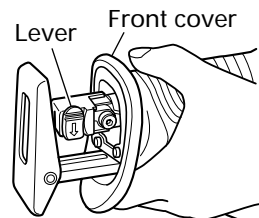

Fig. 5
- (1) Turn on and off the switching trigger several times so that the lever can jump out of the front cover completely. Thereafter, turn off the switch and remove the battery. (Fig. 5)
- Do not remove the front cover (refer to Fig. 5). Be sure to hold the body from the top of the front cover.